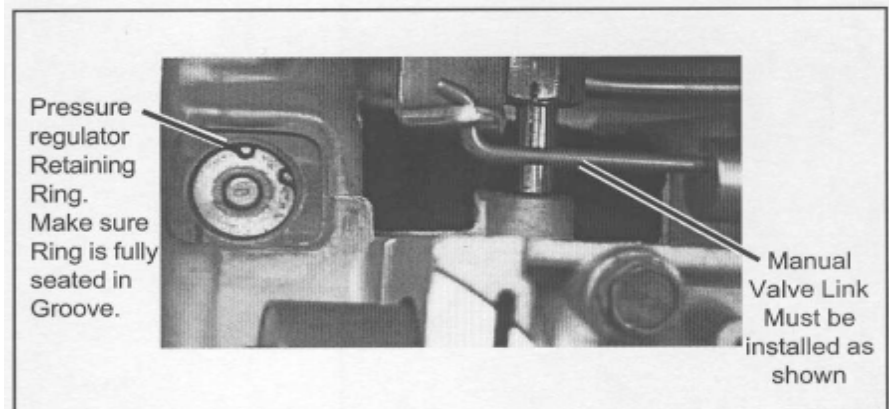
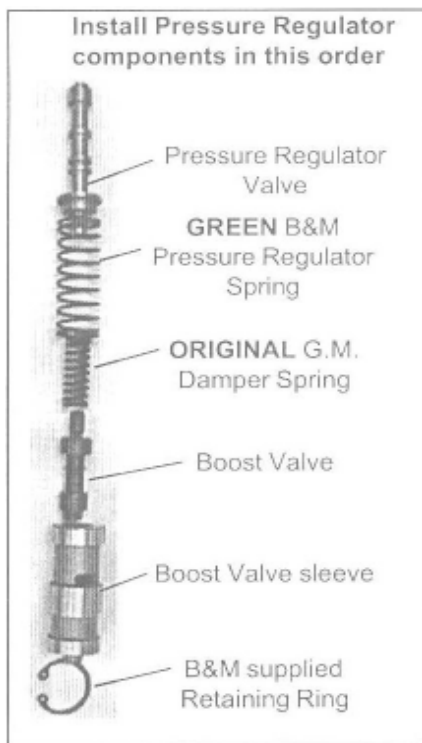

Figure 3.
Figure 4
STEP 7. Heavy Duty and Street; Remove the snap ring at the end of the pressure regulator bore (See Fig. 3). Use a screwdriver to push against the spring loaded Boost Valve sleeve while removing the retaining ring. Remove Boost Valve Sleeve and Valve and the Pressure Regulator Spring. The Pressure Regulator Valve may fall out but it does not have to be removed. Reassemble the pressure regulator assembly as shown (See Fig. 4) using the GREEN Pressure Regulator Spring from the kit. Use the new retaining ring
STEP 15. Make sure Valve Body check balls are in correct locations (See Fig. 12). Position the manual valve so the manual valve link can be engaged (See Fig. 4). The manual valve link must be placed into the hole in the manual valve at a right angle to valve axis, then rotated 90 degrees to allow the valve to enter the manual valve bore. Do not force valve or link at any time. When the valve is fully engaged, align the valve body and case holes and install one bolt finger tight to hold valve body in place. Refer to your sketch and notes to properly position wire harness clips and solenoid connectors. Install all of the remaining bolts finger tight to finish lining up the separator plate and gaskets (See Fig. 2). Tighten all the valve body, accumulator and support plate bolts to 11 Nm (8 Lb. Ft.). Avoid striped threads. Do not over tighten bolts.